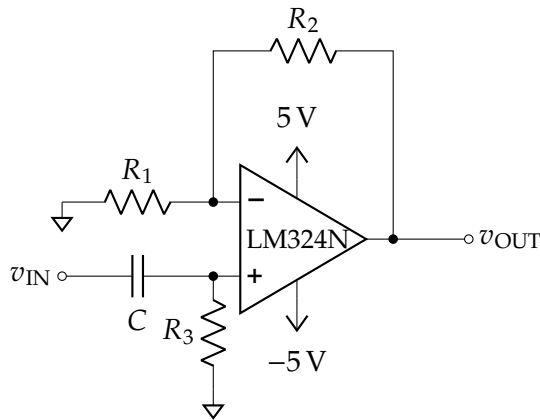

Figure 13.11: High Pass Filter
1. Calculate the cutoff frequency and gain of the filter in figure 13.11 when $R_1 = 1\text{ k}\Omega$, $R_2 = 33\text{ k}\Omega$, $R_3 = 330\text{ k}\Omega$, and $C = 1\text{ }\mu\text{F}$.
2. Construct the filter in figure 13.11.